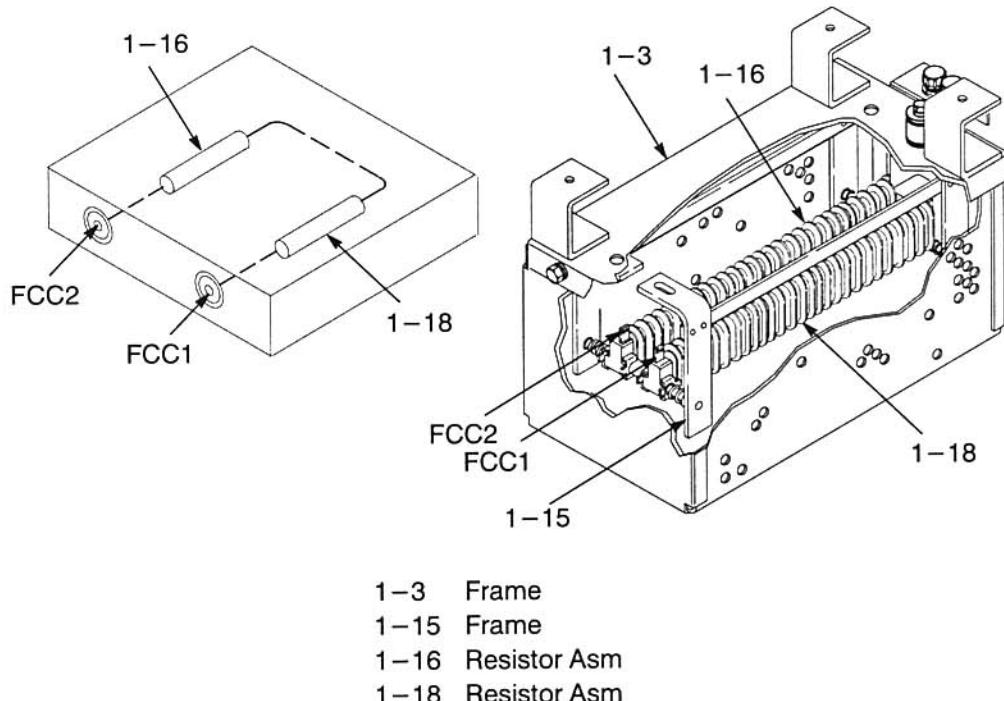

Figure 7-186 Test Filter Charging Resistor
- a. Using an ohmmeter, measure the resistance between the resistor terminals FCC1 and FCC2 (1-16, 1-18, Figure 7-186). It should fall between 0.936 and 1.144 ohms at room temperature.